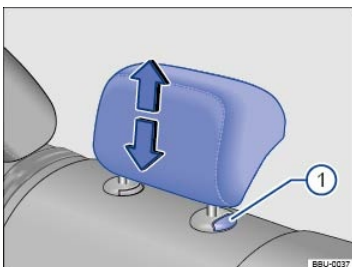

Fig. 80 Adjusting the rear head restraints: rear center head restraint.
- Pull the head restraint up in the direction of the arrow, or push it down while pressing the button ⇒ Fig. 80①⇒ ▲.